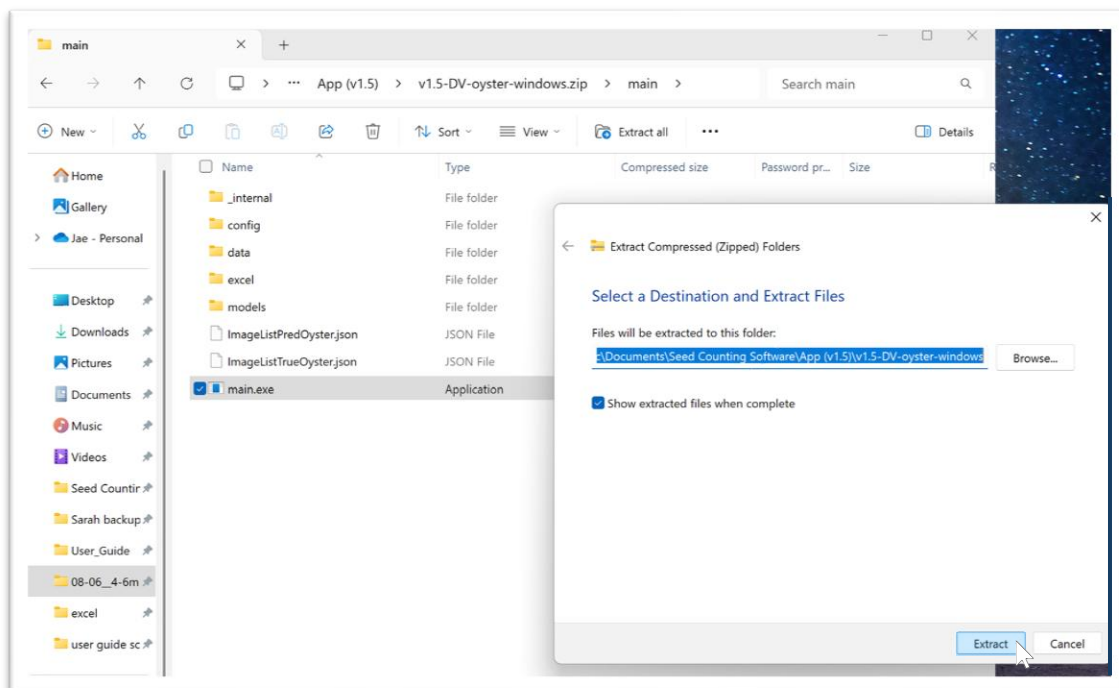

Figure 1.4. Saving extracted files.
5. Save the extracted files to the default folder your computer suggests (it should be the same folder you are currently in) by clicking “Extract” (Figure 1.4).